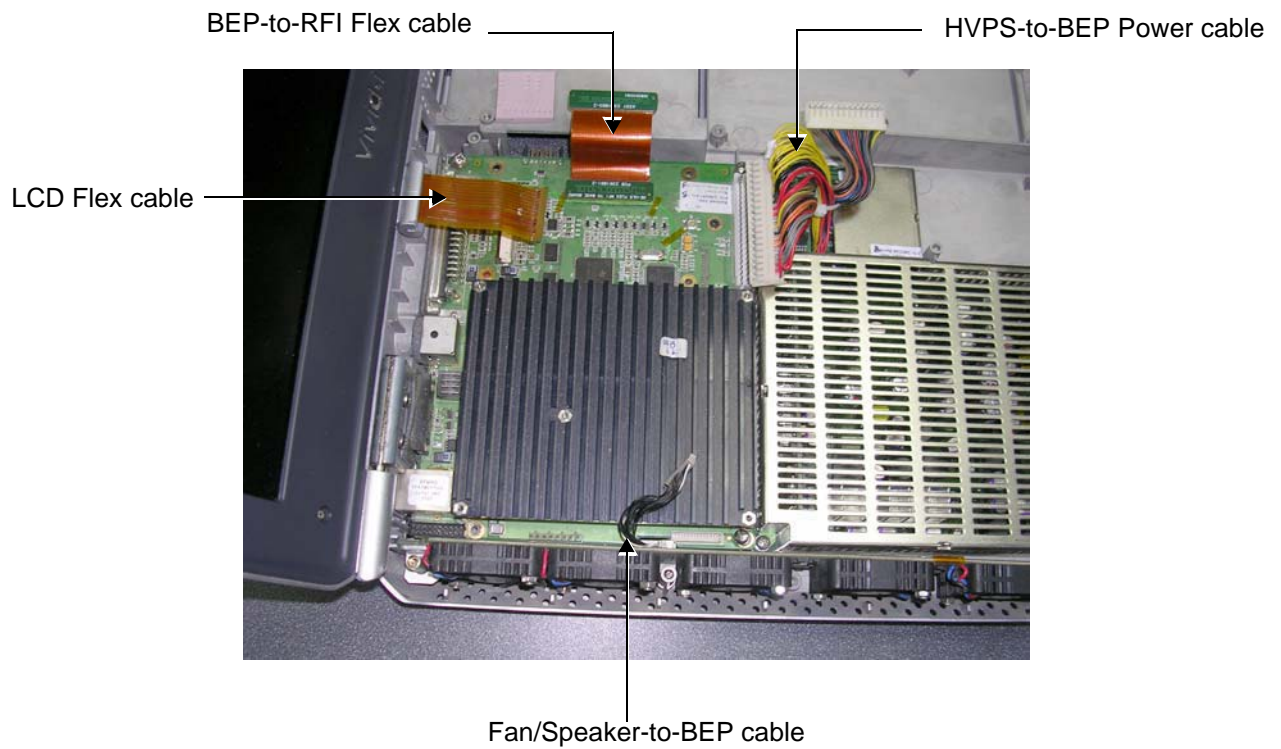

Figure 8-33 Disconnecting Cables from the BEP
Proceed as described on the next page (and illustrated in Figure 8-33).
- 6) Disconnect BEP cables as follows (refer to Figure 8-33 below):
Proceed as follows (refer to Figure 8-33 on page 8-34):